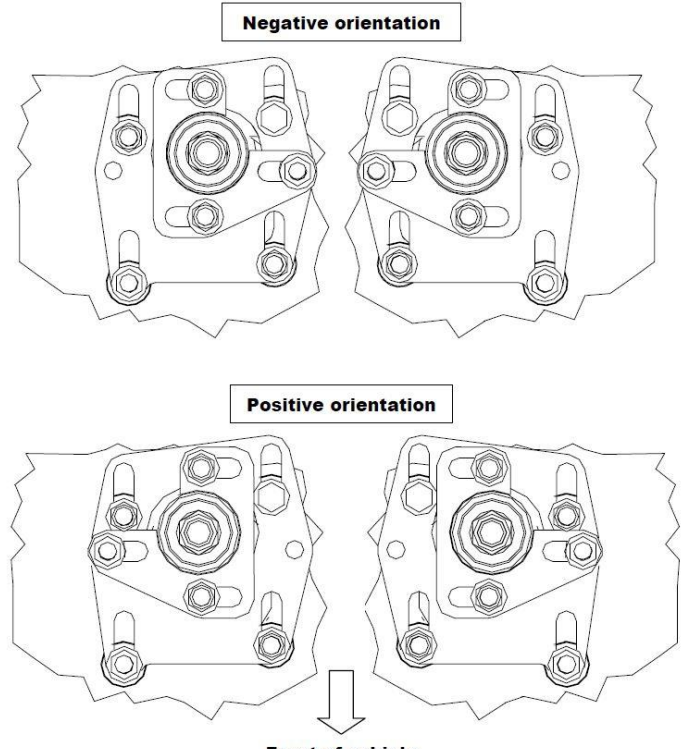

**Figure 6**
19. Refer to **Figure 6** to identify the driver's side and passenger's side top plates.